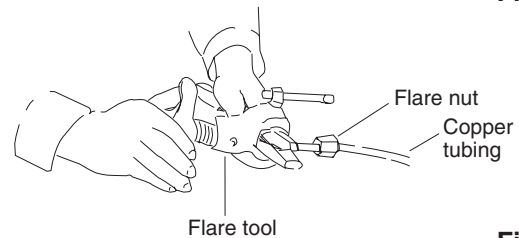

Fig. 2-24
- (3) Remove the flare nut from the unit and be sure to mount it on the copper tube.
- (4) Make a flare at the end of the copper tube with a flare tool. (Fig. 2-24)